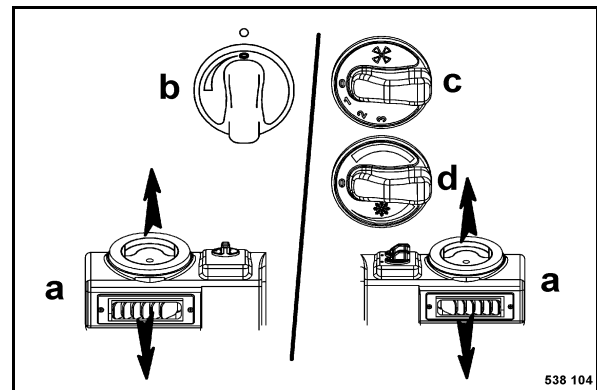

Fig. 73
- Turn the air nozzles a (Fig. 73) to direct the air flow down into the footwell.